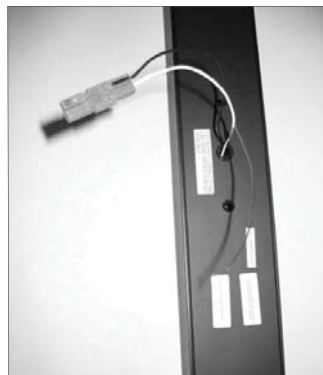

Figure 3
Step 8 Attach disconnect to wires on fixture. (Fig 3) Make wire connections using supplied connectors - Connect black fixture wire to the hot supply wire (typically black); connect white fixture wire to the neutral supply wire (typically white); connect the copper fixture wire to the ground wire or ground terminal at the outlet box. Push all connections inside of outlet box.